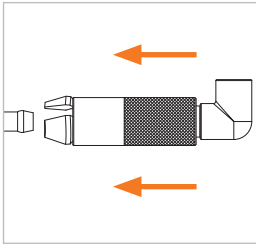
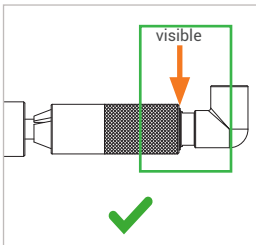
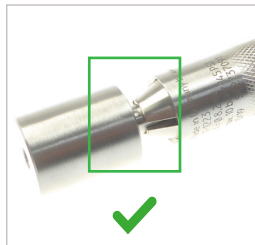
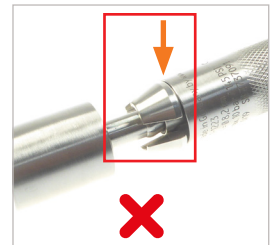

Figure 1
Figure 2
Figure 3
Figure 4
- ▶ Push the connector at the sliding sleeve (Pos. 1) forward onto the test piece (Figure 1). The connector must engage with a clearly audible click. The retaining ring must be visible (Figure 2) and the outer edges of the external diameter of the clamping jaws must no longer be visible (Figure 3 and Figure 4).